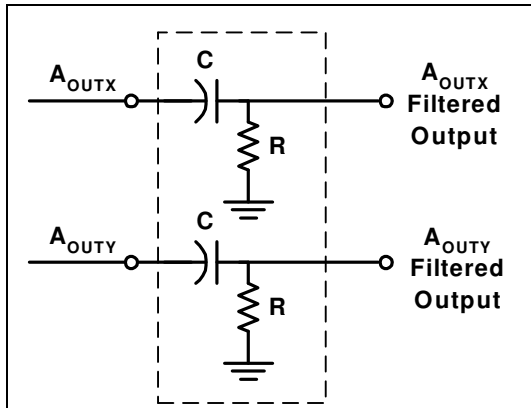

Figure 3: High Pass Filter
**AC Coupling:** For applications where only dynamic accelerations (vibration) are to be measured, it is recommended to ac couple the accelerometer output as shown in Figure 3. The advantage of ac coupling is that variations from part to part of zero g offset and zero g offset versus temperature can be eliminated. Figure 3 is a HPF (high pass filter) with a -3dB breakpoint given by the